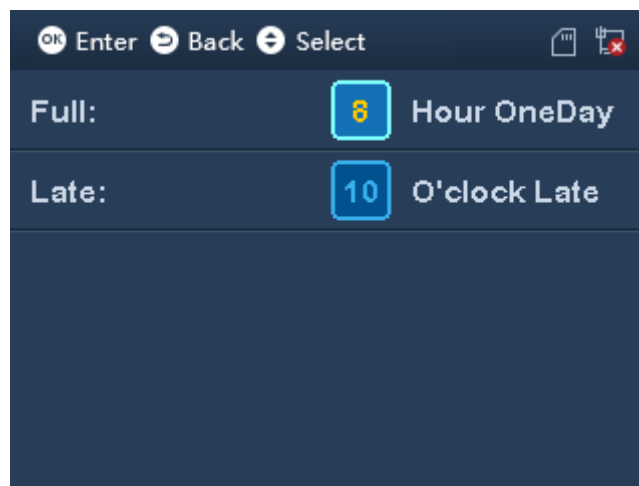

Figure 2-12
Step 1. Select Flexible, click **OK**. See Figure 2-12.